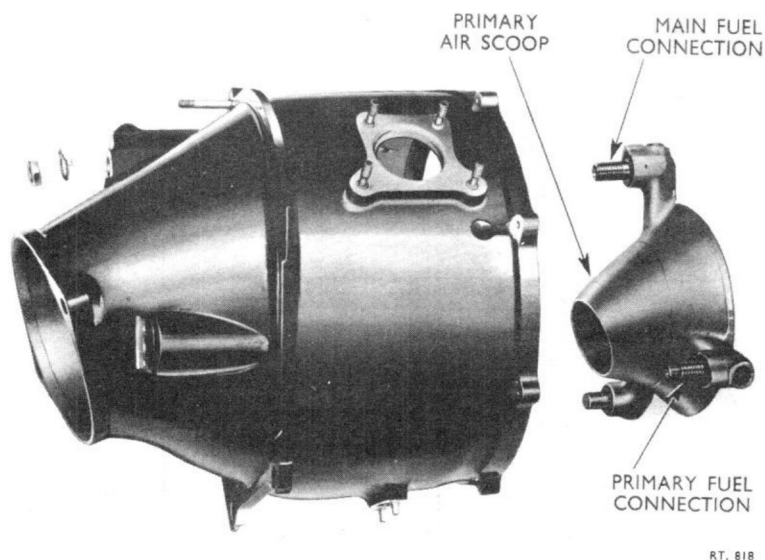

Fig. 11 Expansion chamber and burner
62. Burners may be changed individually; they differ only in the side on which the primary fuel connection is made (fig. 11).